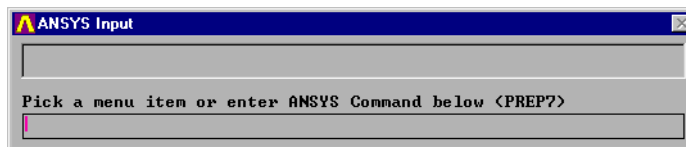

Figure 40: **ANSYS Input** window
**\*USE,accelman.mdl** (Figure 40)